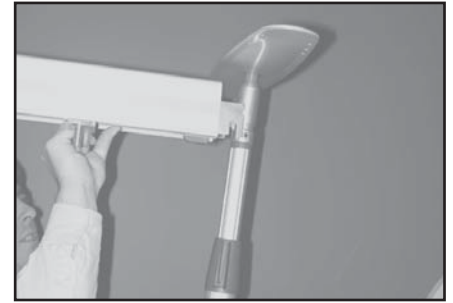

Figure 24
20. Attach the other end of the rail to the post your assistant is holding. It may be necessary to tilt the post to place the rail on to it (Figure 24).